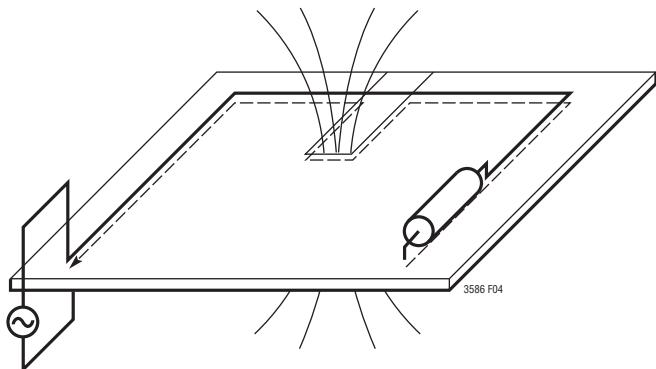

**Figure 3. Hot-Loop Illustration for the LTC4040 Switching Converter**
1. Even though the converter can operate in both step-down (buck) and step-up (boost) mode, there is only one hot-loop containing high-frequency switching currents. The simplified diagram in Figure 3 can be used to explain the hot-loop in the LTC4040 switching converter. Current follows the blue loop when switch S2 (NMOS) is closed and the red loop when switch S1 (PMOS) is closed. So it is evident that the current in the  $C_{BAT}$  capacitor is continuous whereas the  $C_{SYS}$  current is discontinuous forming a hot loop with  $V_{SYS}$  pins and GND as indicated by the green loop. Since the amount of EMI is directly proportional to the area of this loop, the  $V_{SYS}$  capacitor, prioritized over all else, should be placed as close to the  $V_{SYS}$  pins as possible and the ground side of the capacitor should return to the ground plane through an array of vias.